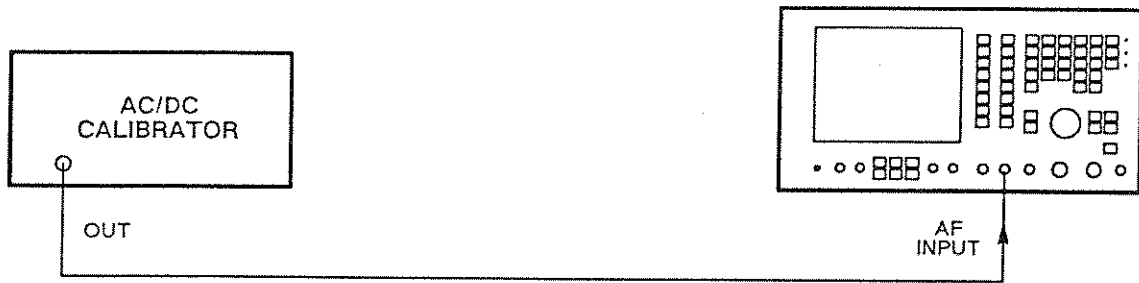

Fig. 6-1 Test equipment connections for oscilloscope AF level
- (1) Connect the AC/DC calibrator to the AF INPUT socket. See Fig. 6-1.
- (2) On the 2955B, set the MODE to RECEIVER TEST, SCOPE/BAR to SCOPE, AC DC to DC, FILTER to 50 kHz LOW PASS and DIST'N, S/N and SINAD to off.
- (3) On the 2955B, use the vertical POSITION control to move the trace to the bottom dotted graticule line.
- (4) On the 2955B, set the VERT scale range to 2 V/div.